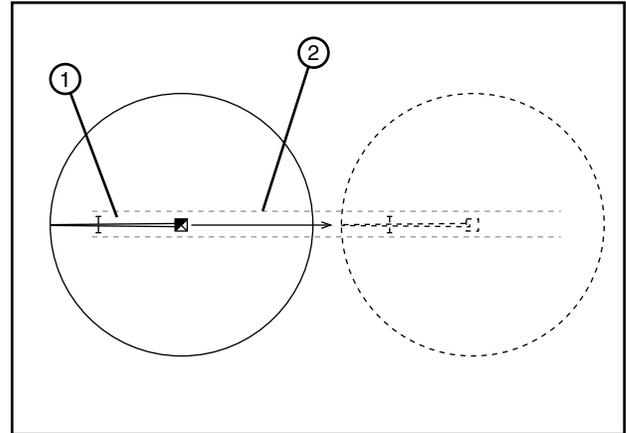

Figure 41-1 1. Machine
1. Position the machine in the tow lane. When positioning the center pivot, always use the “STOP” button on the control panel to stop the center pivot. NEVER stop the center pivot with the control panel or service disconnect switches. See Figure 41-1.